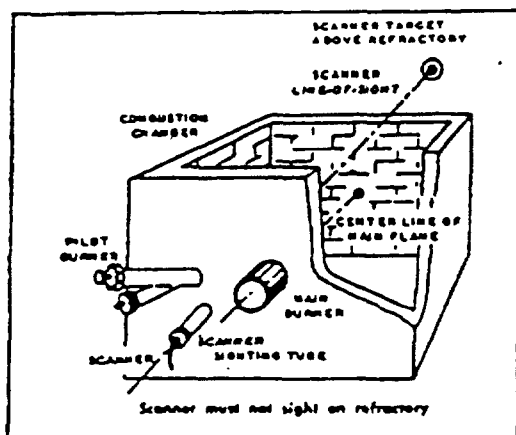

Figure 5
1. Locate scanner sight tube point of entry below and close to the burner ignition assembly (Fig. 5) and drill a $\frac{1}{4}$ " hole through the boiler or furnace wall. The sight tube, a 4"-8" length of $\frac{1}{2}$ " black iron pipe, will be fixed to the hole when the proper position has been established.